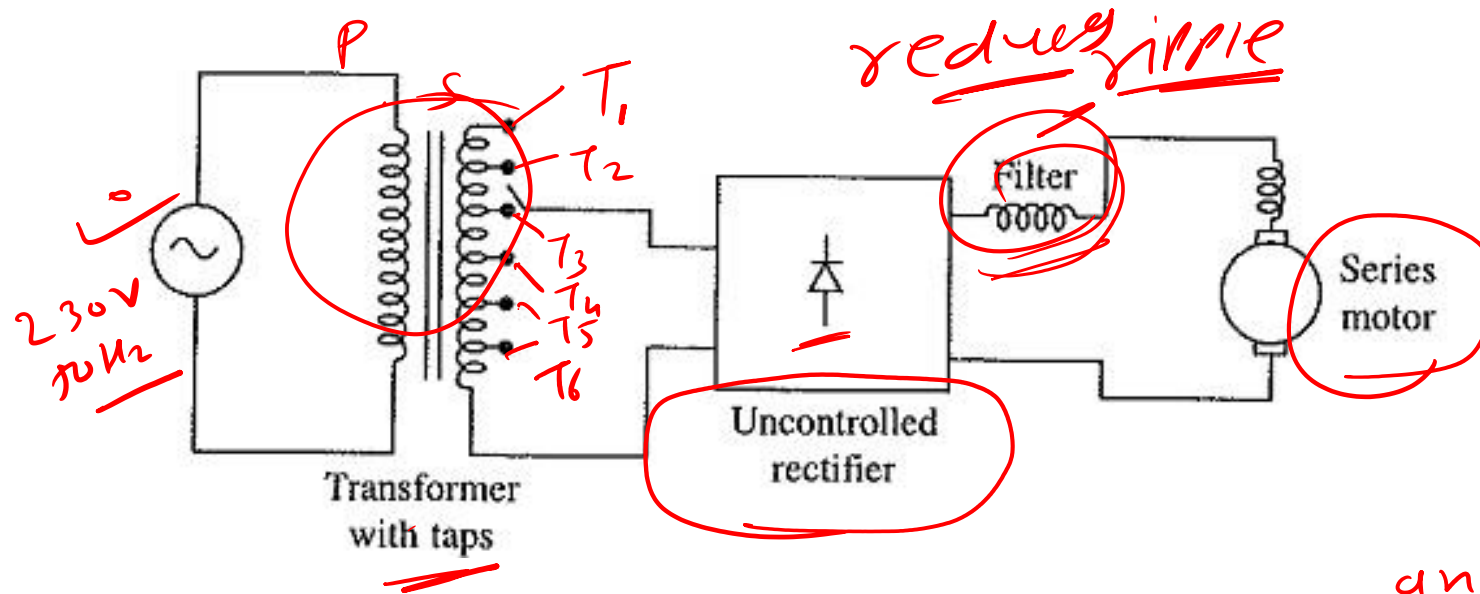

Fig. 1. Armature Voltage Control of ~~DC~~ Motor using Transformer with tap and un uncontrolled rectifier.
- Variable voltage for the DC motor control can also be obtained by either using an auto-transformer or a Armature Voltage Control using a Transformer with tapings (either on primary or on secondary) followed by an uncontrolled rectifier as shown in Fig. 1.